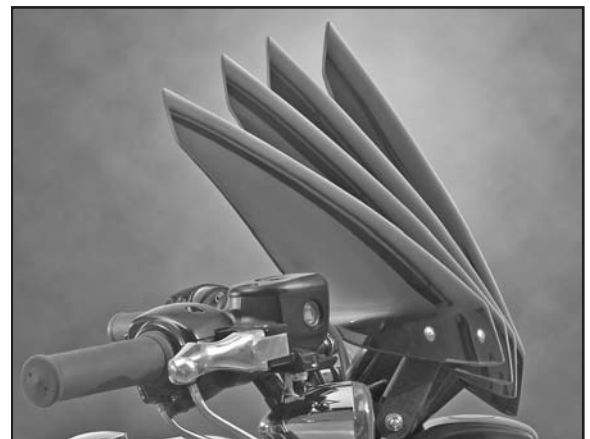

Figure 4
6. Adjust shield to desired position. **Tighten Cap Nuts securely (71 in/lbs or 8 Nm) (7/16" Box Wrench) Figure 4**